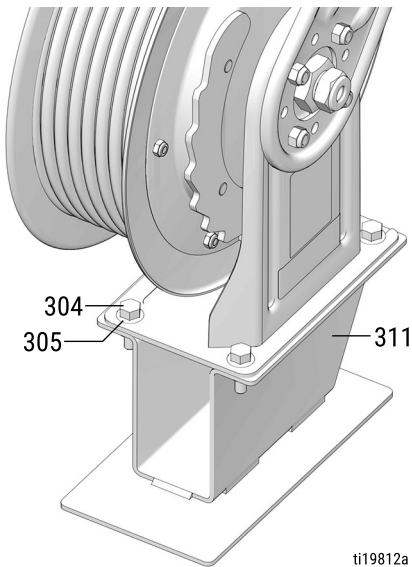

FIG. 15
4. Bolt the mounting bracket (311) to the base of the reel with bolts (304) and washers (305) (FIG. 15).